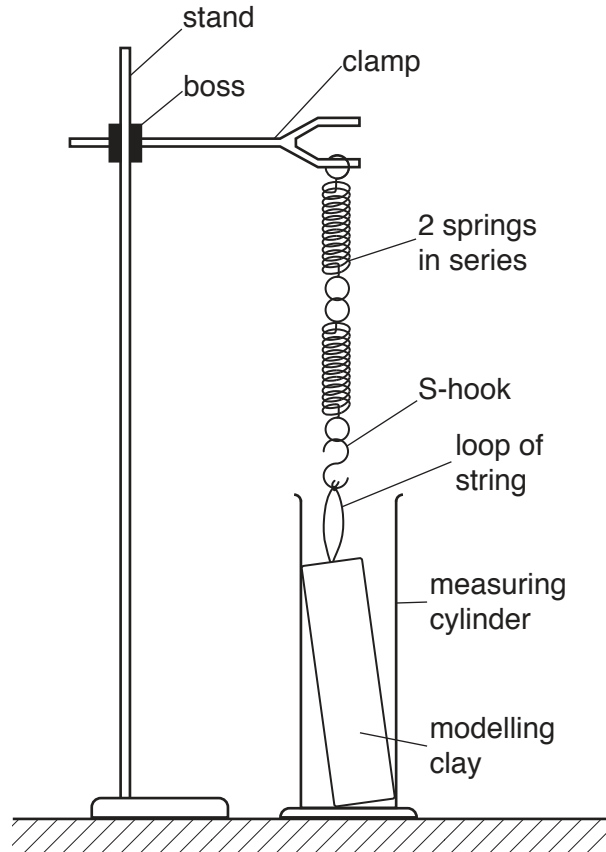

Fig. 4.1
4. The **candidate** will initially set up the apparatus as shown in Fig. 4.1 and then raise the clamp so that the modelling clay is suspended from the spring arrangement.